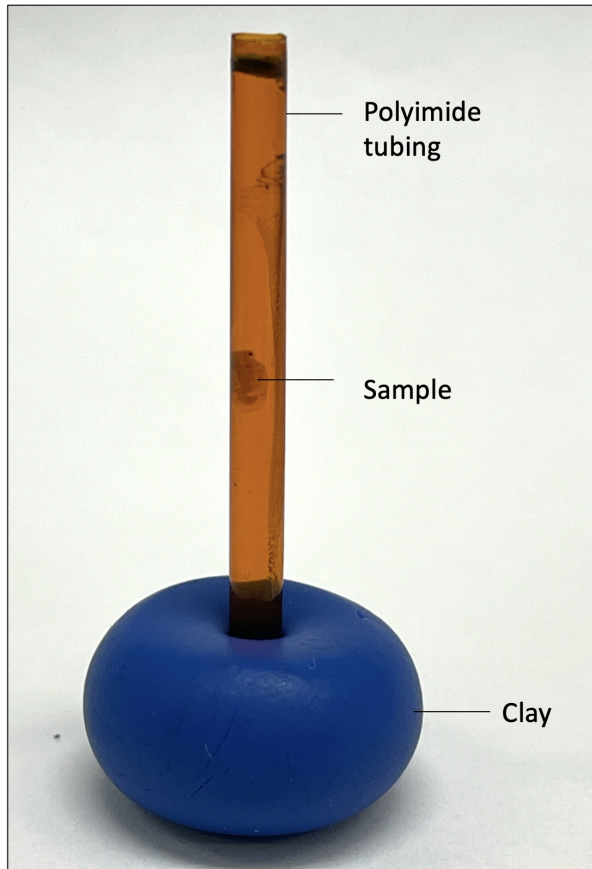

Fig 3. Sample embedded in LR White acrylic resin using polyimide tubing.
- 23 Place the tubing horizontally, with one end slightly elevated to minimize bubble formation next to the sample. Allow the resin to polymerize for  24:00:00 at  65 °C . Once polymerized, the sample is ready for imaging (Fig 3). Removal of polyimide tubing is possible but not necessary for imaging.